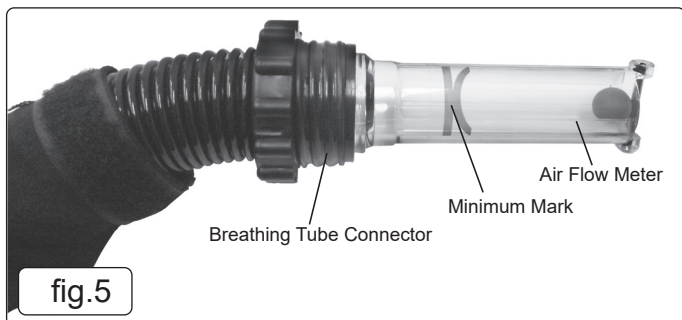

fig.5
4.10.2. The flowmeter ball should float above minimum mark. If flowmeter reads minimum or below, please check battery and filter elements (fig.5).